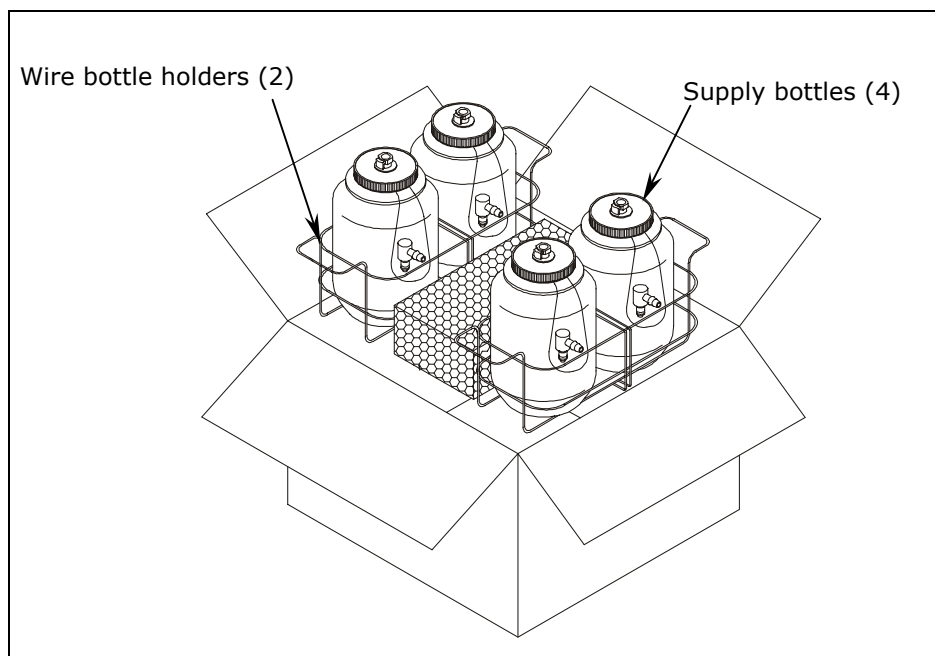

Figure 7: Removing the Wire Holders, Supply Bottles, and Other Accessories From the Shipping Container
4. Lift out the two wire holders containing the four supply bottles, the tubing and other accessories (**Figure 7**).